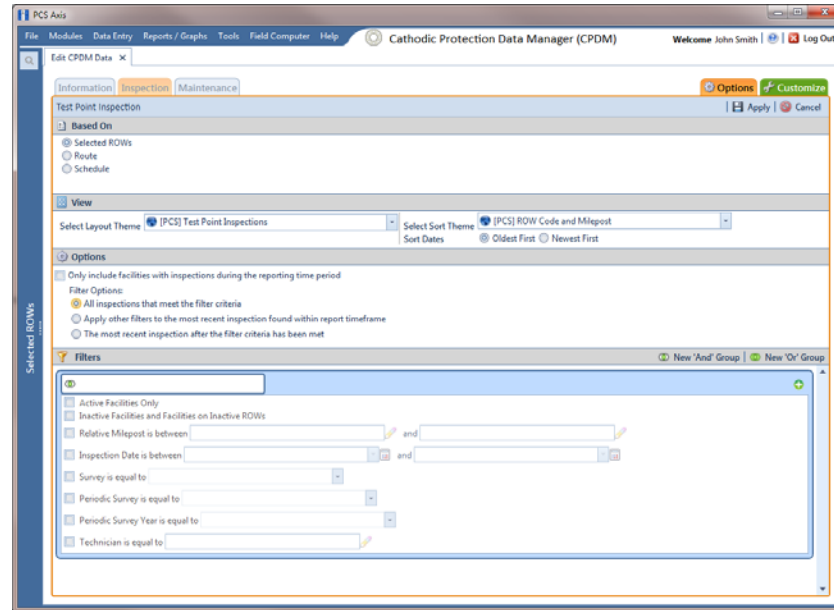

Figure 7-17. Options
- 6 Click  **Save**, then click the **Options** tab  **Options** to open the options page (Figure 7-17, page 299).